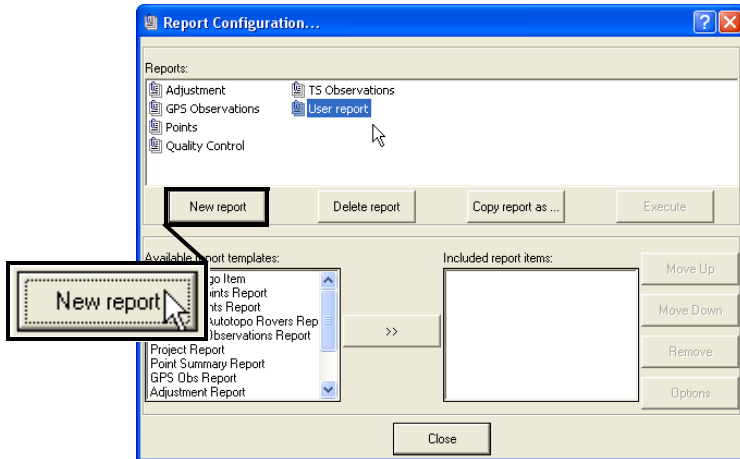

Figure 7-39. Create New Report
1. On the *Report Configuration* dialog box, click **New report**. A report called “User report” appears in the *Reports* window (Figure 7-39).